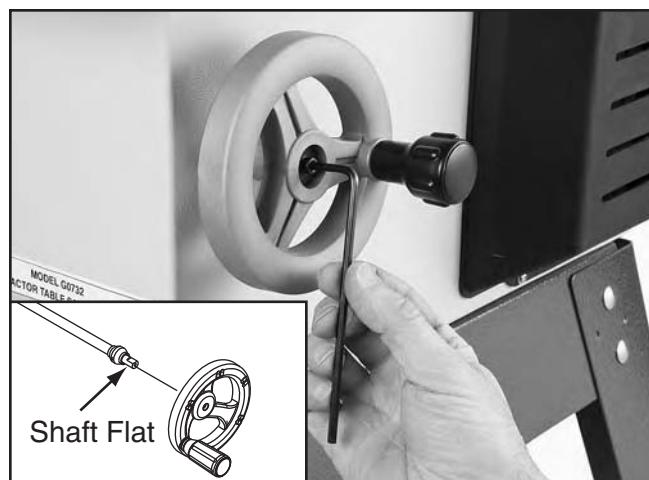

Figure 17. Securing blade tilt handwheel.
- Slide the flat of the blade tilt handwheel onto the flat of the blade tilt shaft, then secure, as shown in **Figure 17**.